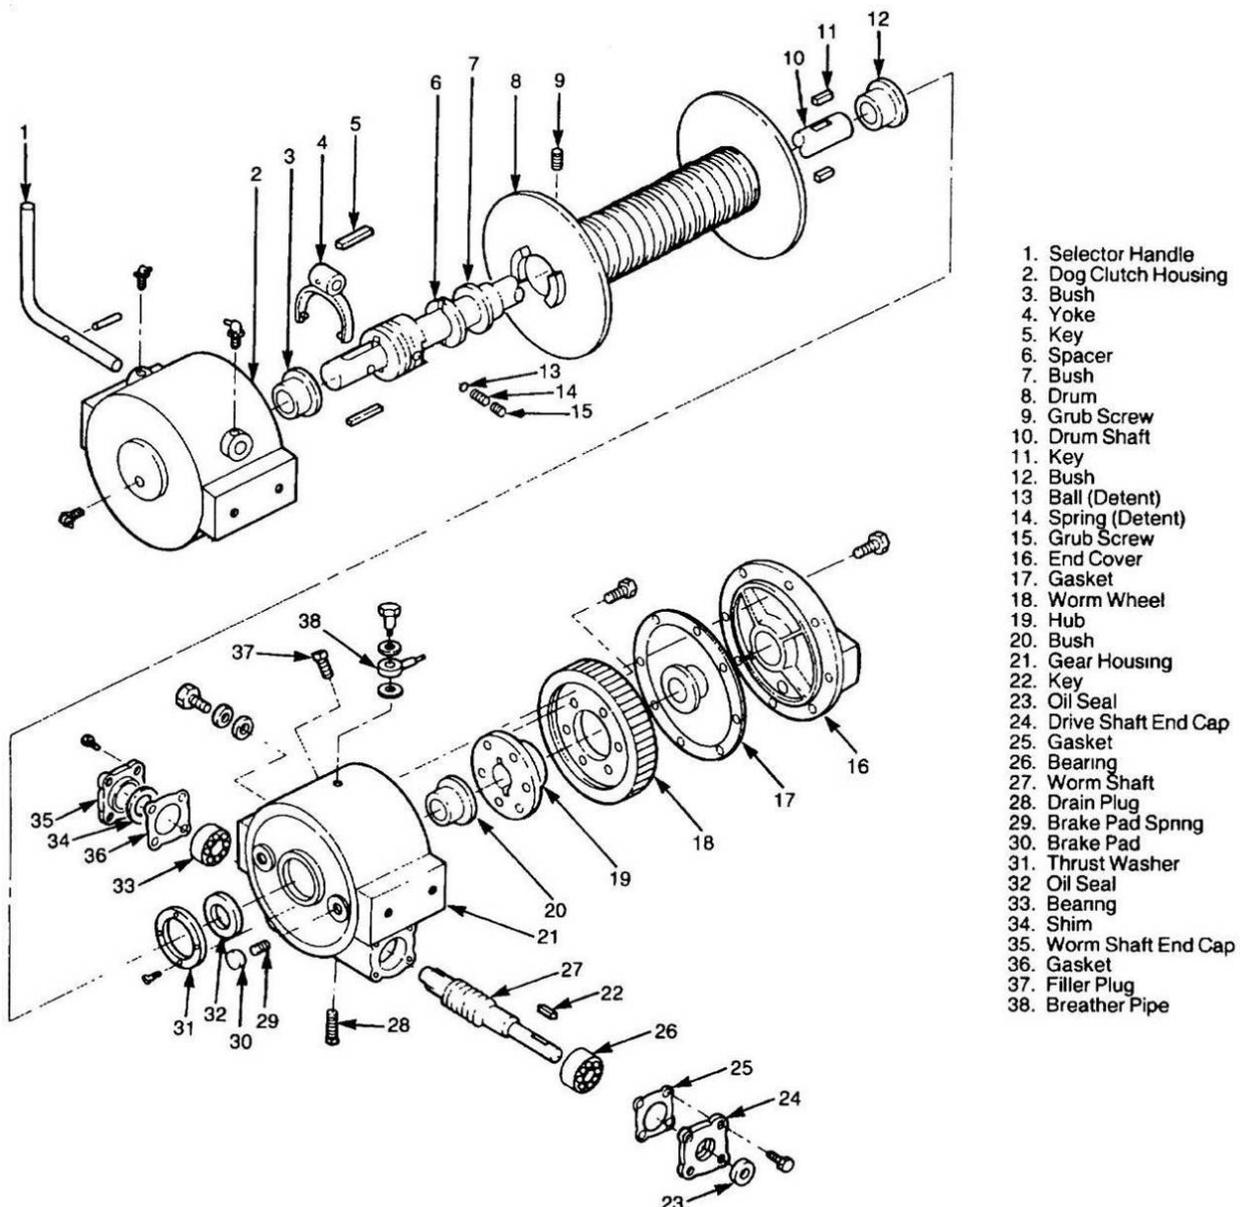

Figure 338 Winch Assembly - Exploded View
- f. Withdraw the dog clutch housing and lever (Figure 338).